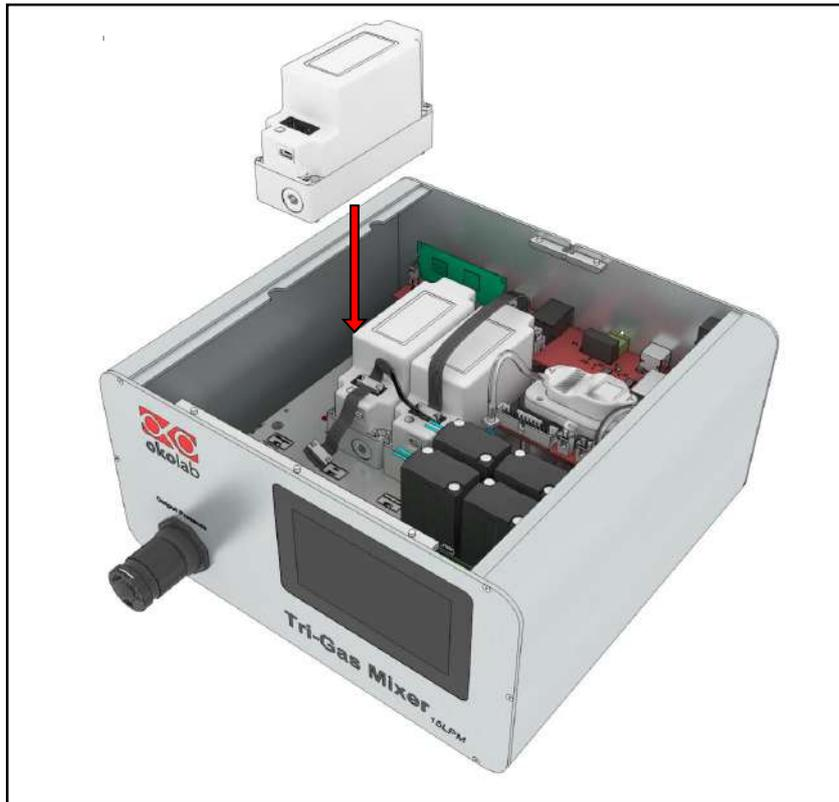

Figure 133 Mass flow controller replacement
1. Position the Mass Flow Controller in order that its fixing holes correspond to the threaded holes in the joint panel (see Figure 133)